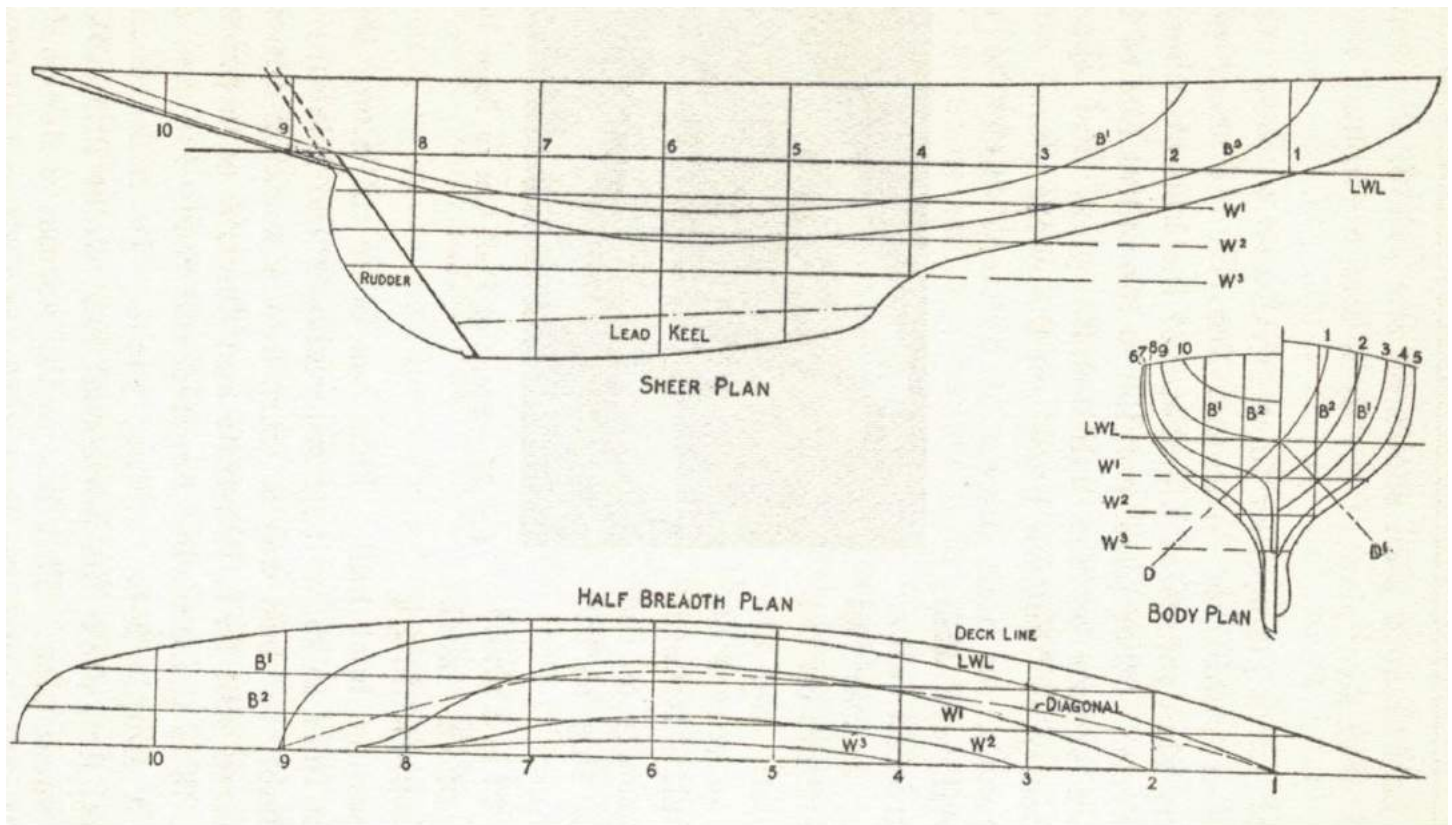

Fig.2: Example Line Drawing
The basis for all of these calculations is the lines drawing. Therefore, we will spend a little effort to reach a common understanding of the basics of this plan. Figure 2 shows a simplified lines drawing of a generic vintage-type model boat, which I have taken from page 80 of the book *Model Sailing*
- a profile view (called the “Sheer Plan” in Fig 2);
- a set of sections (called the “Body Plan” in Fig. 2) – note that the half-sections for the forward half of the hull are shown on the right side, and the half-sections for the aft half are on the left;
A drawing of each section, reduced by the planking thickness, defines the shape of each frame. Trace each section onto the frame material and cut. I think it is convenient to also shape the deck camber by making the deck beam part of each frame – i.e., by making each frame a “ring”. See the photo in Fig 3. This deck camber may or may not be shown in the lines drawings (it is not shown in Fig. 2); if not, then you must draw a reasonable deck camber that is consistent on all frames.